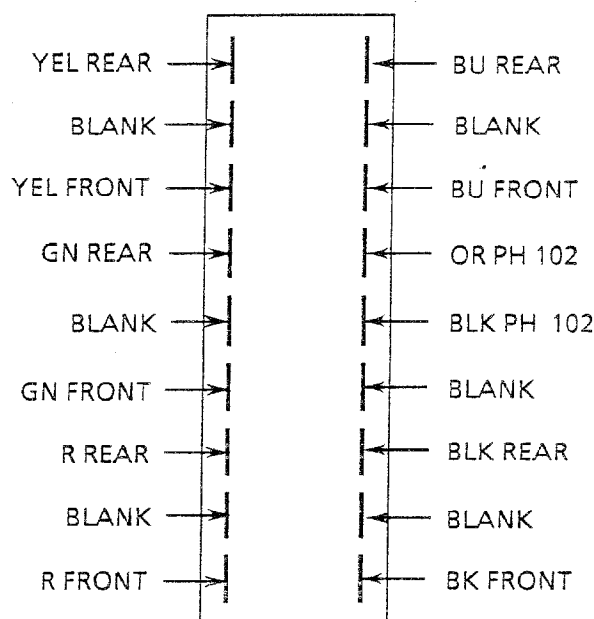

Fig 2.16 *Front/Rear Switch Wiring*
1. Resolder the 12 wires on the FRONT/REAR switch S1 in accordance with Fig 2.16.